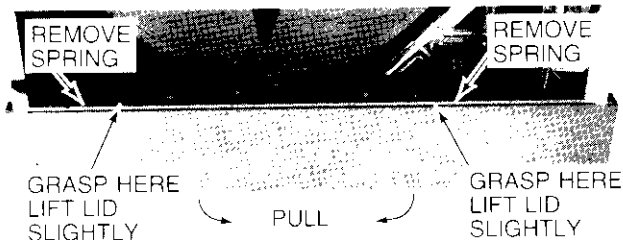

Fig. 9—Door Push Rod Spring
1. With cabinet top removed and player in "LOAD" mode—remove AC cord from power source. Use needle nose pliers and carefully remove door push rod spring from front receiver pad (left and right sides) Fig. 9.